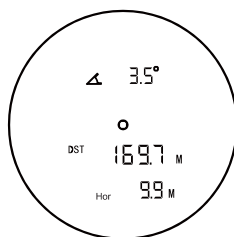

Figure 5
In this mode, you can measure the horizontal distance to the target. The angle, straight line distance to the target, and the horizontal distance to the target will be displayed (Fig. 5). Press the Power/measure button (1) in order to take a single measurement. Press and hold the Power/measure button (1) for continuous measurement.